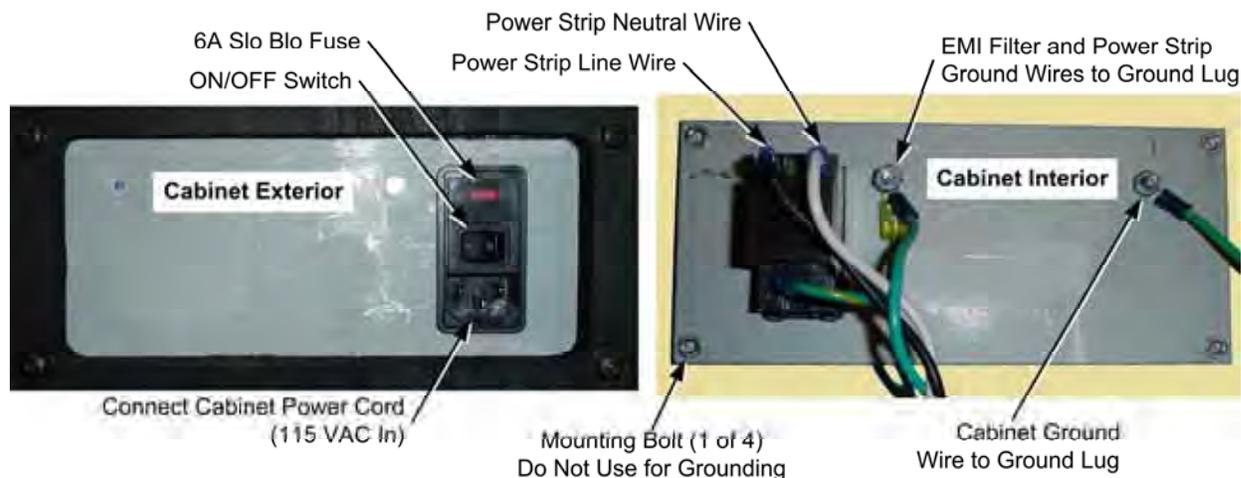

Figure 21. AC Power Plate (Shown Without Labels)
3. Disconnect the power strip from the AC power plate terminals shown in Figure 21 on page 33.